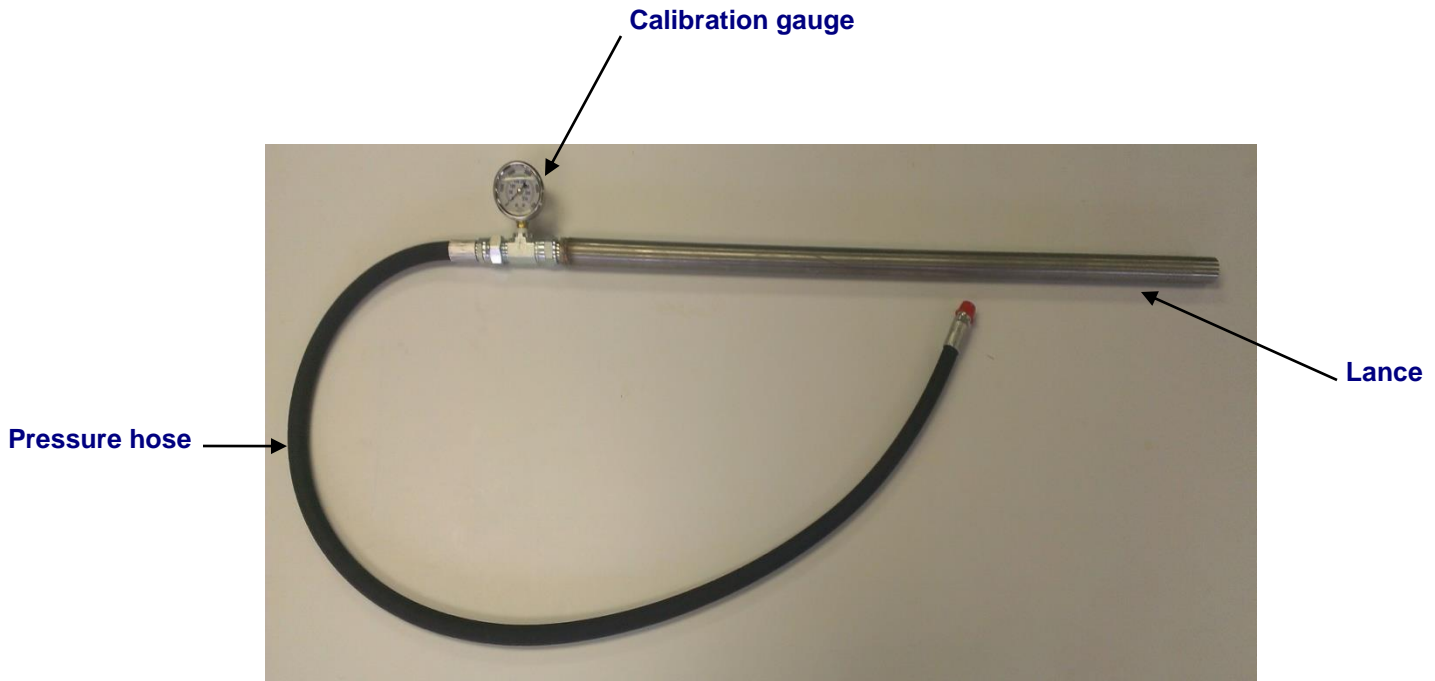

Figure 5.1 – Lance Pressure Calibration
- Attach the calibration gauge between the main hose line and the lance and tighten the JIC connections. (See figure 5.1)